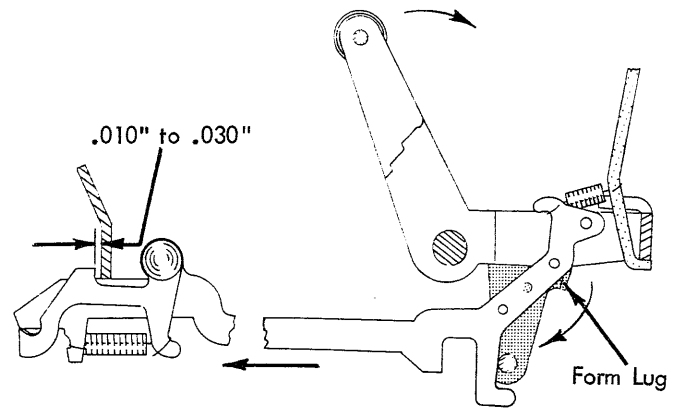

FIGURE 120. Interposer Restoring Bail Adjustment
8. Interposer Restoring Bail - Form the lug at each side of the restoring bail so that the interposers will be restored forward $.010''$ to $.030''$ past the latching point (Fig. 120) when either cam is operated. Be sure to check the interposers at each side and form the lug on the side being checked.